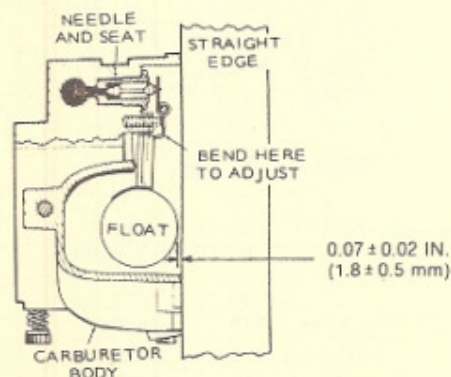

Figure 214 - Carburetor Float Setting
4. Invert the carburetor and check the float setting (see figure 214). The float should have a 0.07 ± 0.5 mm clearance from the machined mating surface (without gasket). Bend the float tab as required.
5. If it is necessary to reset the float level, loosen the screw near float valve axle (pin) and bend the float arm near float valve axle (pin) to position float flush with top edge of carburetor float bowl (see figure 214).